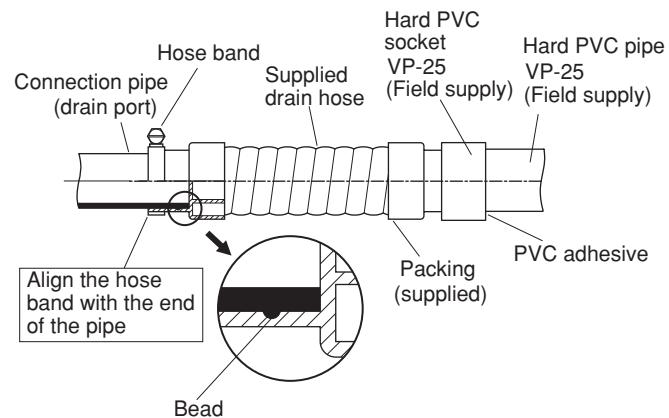

Fig. 3-53
- (1) Prepare a standard hard PVC pipe (O.D. 32 mm) for the drain and use the supplied drain hose and hose band to prevent water leaks. The PVC pipe must be purchased separately. The unit's transparent drain port allows you to check drainage. (Fig. 3-53)
- Insert the drain pipe until it contacts the socket, as shown in Fig. 3-53, then secure it tightly with the hose band.
- Align the hose bands with the end of the hose. Tighten the hose band firmly. Please make sure that the bead is not covered by the hose band. (Fig. 3-53)
Tighten the hose clamps so their locking nuts face upward. (Fig. 3-53)